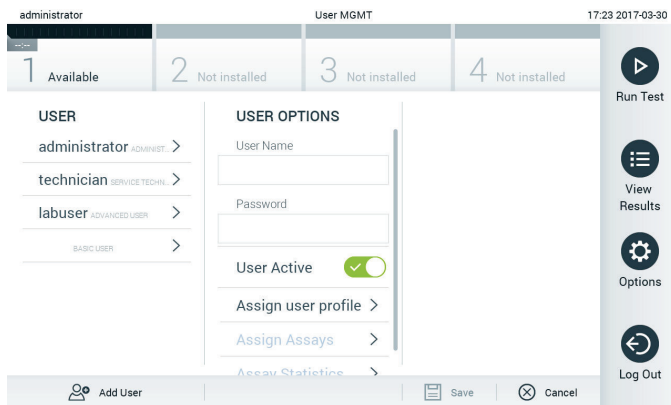

Figure 52. Adding a new user.
1. Press the **Options** button and then the **User Management** button to configure users. The **User Management** screen appears in the content area of the display (Figure 52).